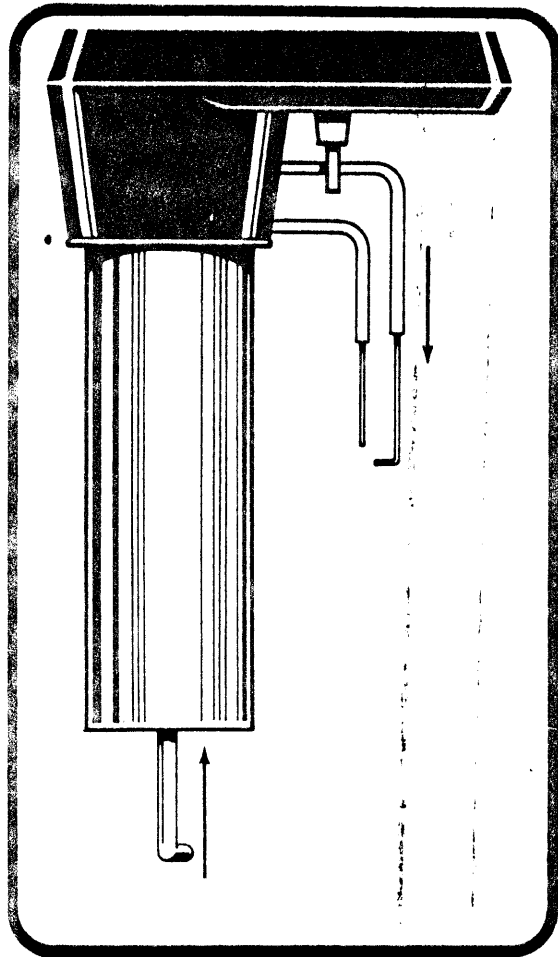

Figure 8-2
- 2) Place your right forefinger on top of the right angle formed by the moving electrode. See Figure 8-2.